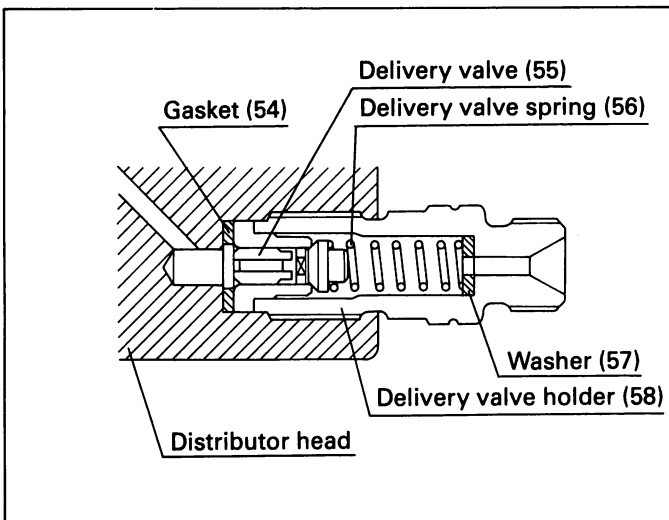

Fig. 76 Delivery valve assembly diagram
Install the delivery valve gasket (54), delivery valve assembly (55), delivery valve spring (56), washer (57) and delivery valve holder (58) in the distributor head assembly and tighten to the specified torque using the socket wrench (157914-1100). (Figs. 76 and 77)